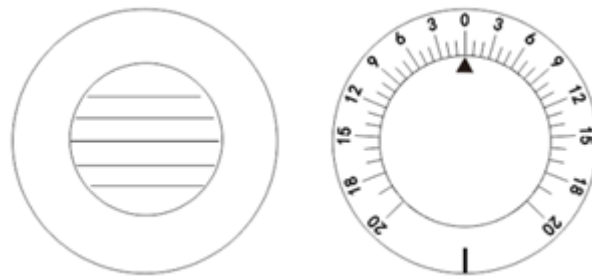
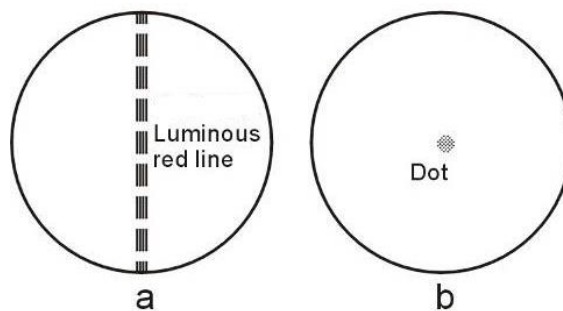
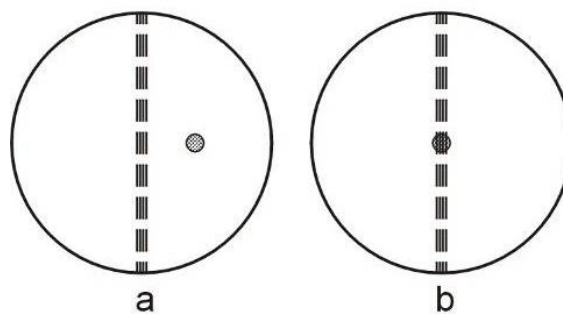
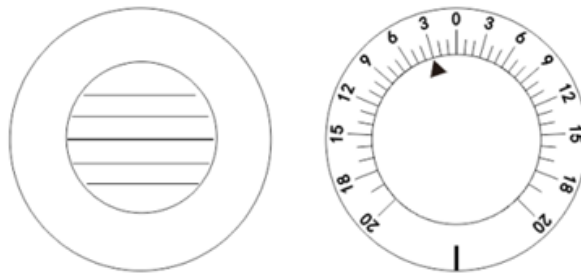

Fig.44
Fig.45
Fig.46
Fig.47
(1) Maddox rod and rotary prism method
- a. First conduct horizontal phoria measurement. Proceed according to (1) rotary prism method described in 6.8.5 Binocular Balance Test. Turn auxiliary lens rotation knob ②①, and set right eye to MRRH (Fig.44). Turn prism rotation knob ①① with its setting 0 on the triangle symbol facing the left eye. Light a small fixation light at the position where the chart is projected. Now Testee's right eye can see a red vertical line (see Fig.45 a), and his left eye can see a light spot (see Fig.45 b). They are probably (a) or (b) of Fig.46. The light spot will also move when prism rotation knob ①① is turned. Then ask the patient to tell when he sees the image shown in Fig.46 b. The test result is shown in Fig.47. The prism rotation scale is shown as 2. The result of 2ΔI (base inward) stands for 2